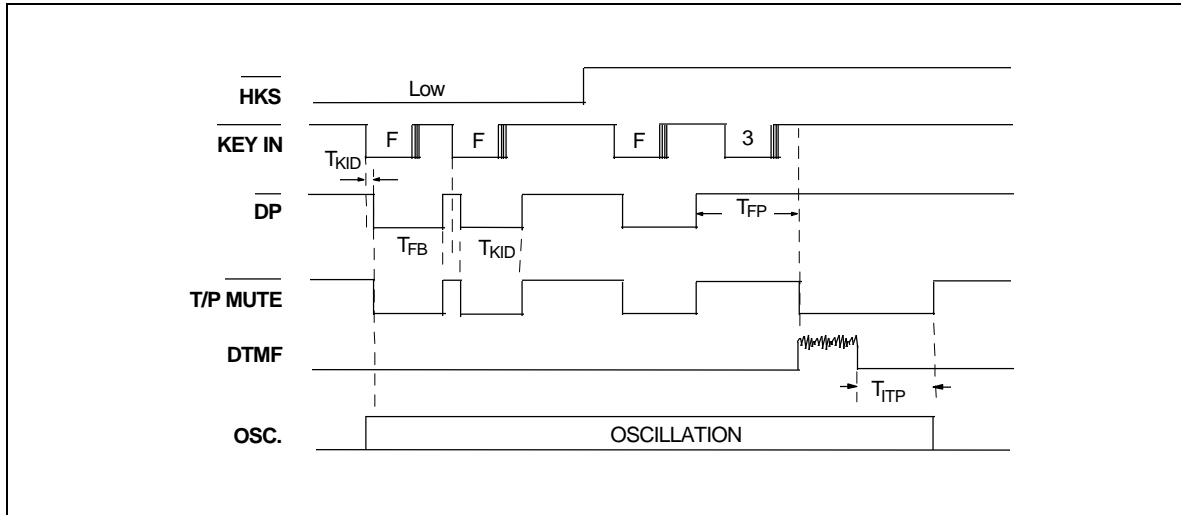

Figure 5. Flash Function Timing Diagram
3. The flash function timing diagram is shown in Figure 5.